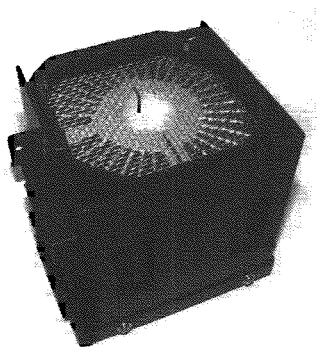

Fig 1
1. Place the lamp assembly on a stable work surface (Fig. 1).